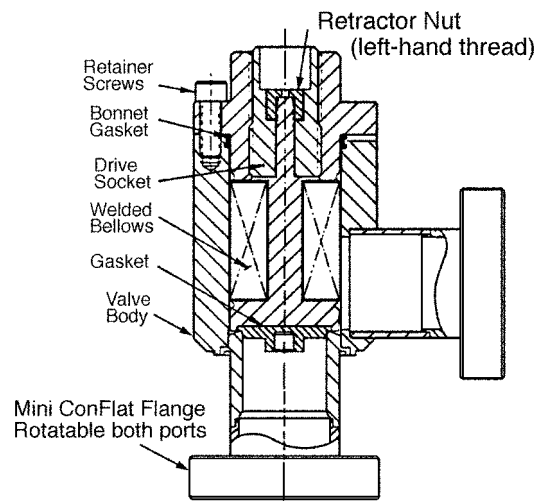

Figure 1-4 Cross-Section Drawing of 3/4" (15 mm) Valve
1. Insert a new gasket and press it into the piston by hand. Wear clean, lint-free gloves to avoid contaminating the gasket. Ensure that the gasket is not noticeably cocked (Figure 1-4).